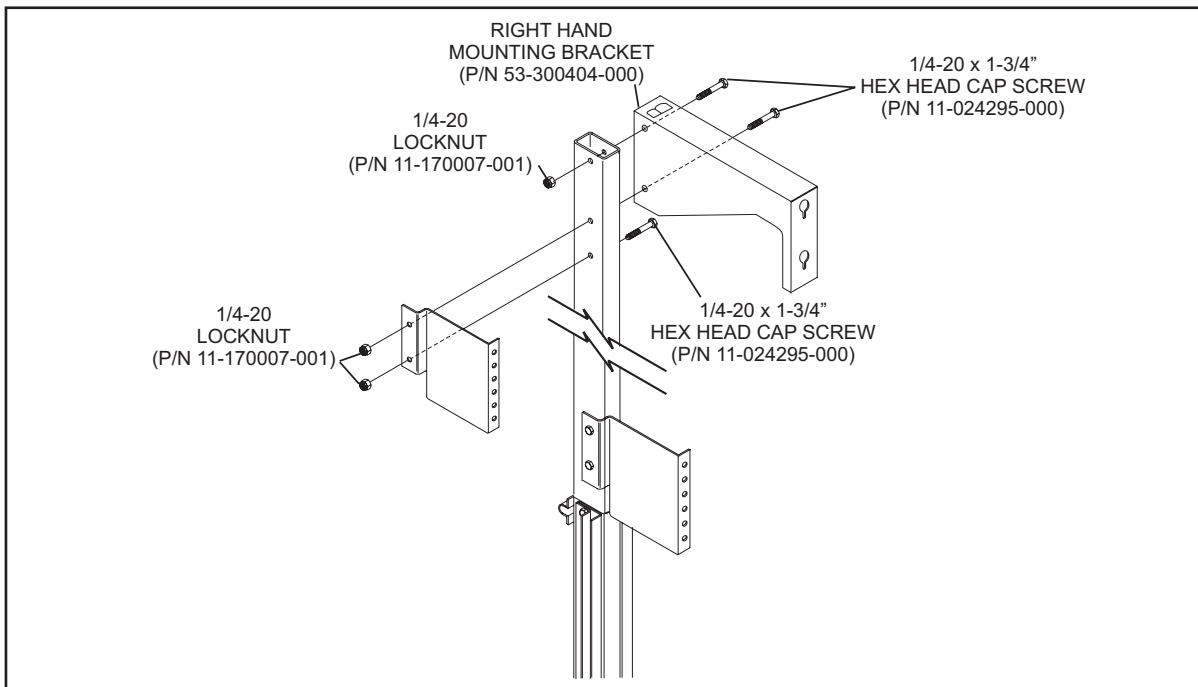

Figure 18
1. Install the last support assembly “B” projection screen mounting bracket and upper graphic standoff. Refer to *Figure 18*.